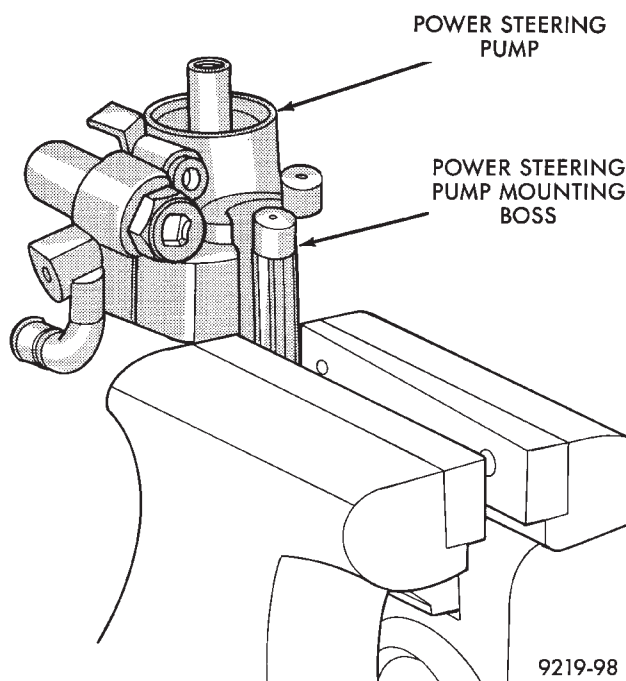

Fig. 36 Correctly Mounted Power Steering
(1) Mount the power steering pump in a vise using one of the pump mounting bosses (Fig. 36). **Do not clamp the body of the power steering pump in vise.**